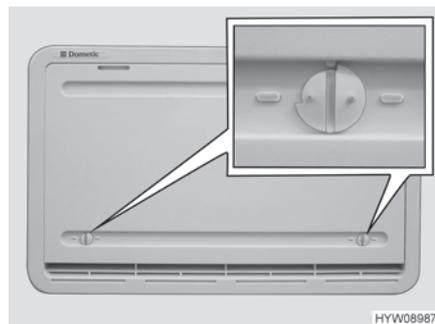

Fig. 183 Winter cover
Winter cover If the refrigerator is to be operated at low external temperatures, the manufacturer recommends the use of a winter cover (Fig. 183) for the refrigerator ventilation grills.
- Open both locks (Fig. 183) (groove in horizontal position).